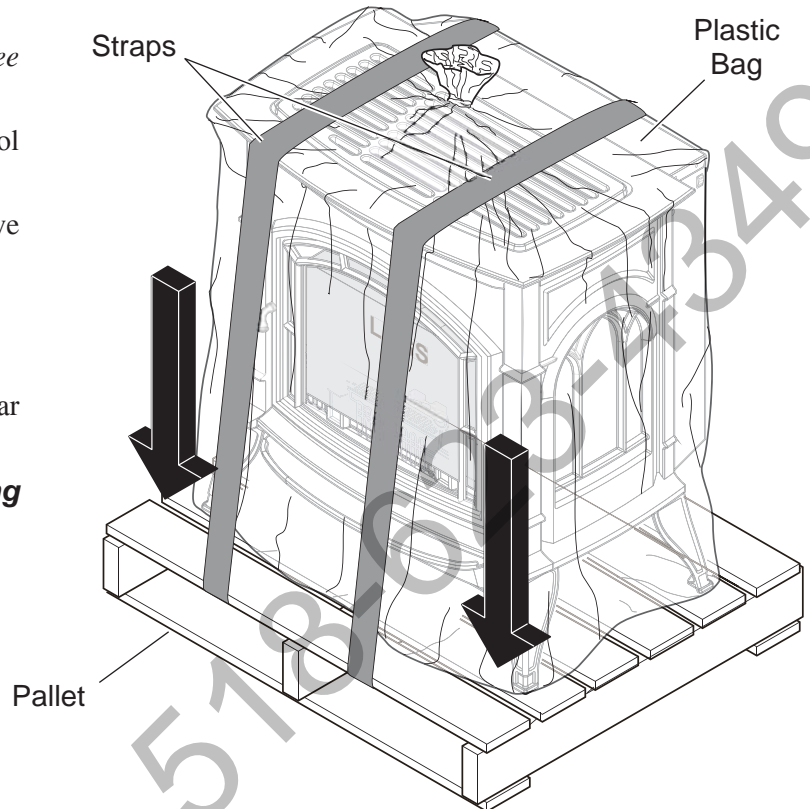

Figure 6 - Removing Straps and Plastic from Unit
1. Remove two (2) straps. *See Figure 6.*